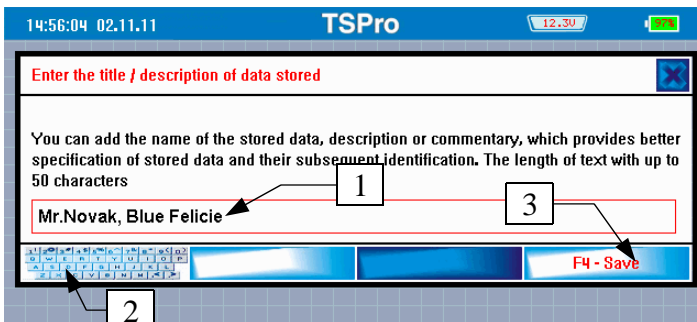

Figure 3.8
The fault list can be stored in the internal memory for later use. You can store the faults readout by pressing the Save button on the screen (4) or by the F4 key on the TSPPro. Stored record can be accompanied by a text to ease identification of the record (Figure 3.8) the text is entered using the virtual keyboard (2) into the text field (1). The text will be stored after pressing Save (3) button. If the procedure has been successful, a confirmation window Record stored will appear.